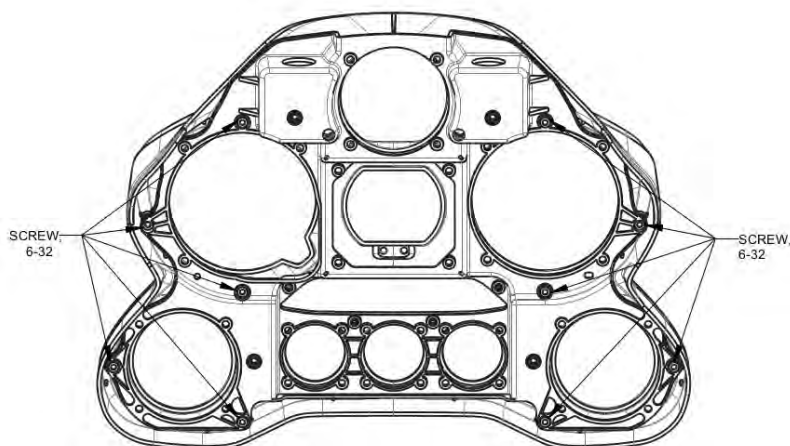

FIGURE 13-9
6. Remove cluster bezel by removing 10 #6-32 mounting panel attachment screws. See Figure 13-9.
1. Install cluster bezel with 10 #6-32 mounting panel attachment screws. Apply a small amount of LOCTITE 222. Torque to 6-10 in-lb. See Figure 13-9.